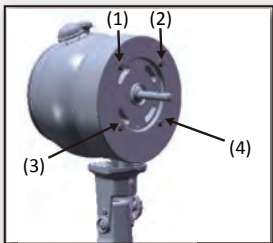
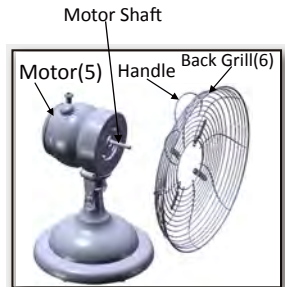

Figure 1.
Figure 2.
1. Unscrew the 4 Grill Mount Screws(1)(2)(3)(4) on the front of the motor. **Figure 1.** Place the back grill against the motor housing(5), **Figure 2.** And line up the 4 tabs on the back of the grill(6) to the 4 screw holes on the front of the motor. Make sure the Handle on the back of the back grill is facing up.